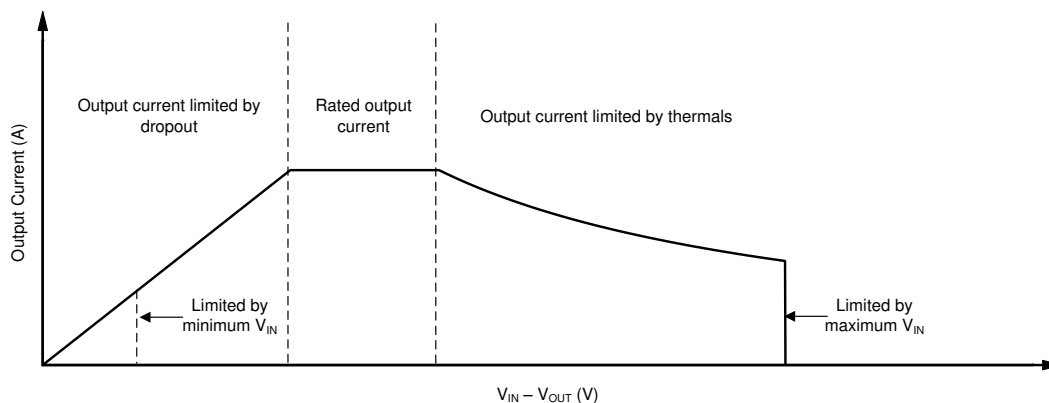

图 7-3. Region Description of Continuous Operation Regime
The operational area of an LDO is limited by the dropout voltage, output current, junction temperature, and input voltage. The recommended area for continuous operation for a linear regulator is given in 图 7-3 and is separated into the following parts:
- The shape of the slope is depicted in the third region of 图 7-3. The slope is nonlinear because the maximum-rated junction temperature of the LDO is controlled by the power dissipation across the LDO. Thus, when $V_{IN} - V_{OUT}$ increases the output current decreases.
图 7-3 shows the recommended area of operation for this device on a JEDEC-standard high-K board with a $R_{\theta JA}$, as given in the Thermal Information table.